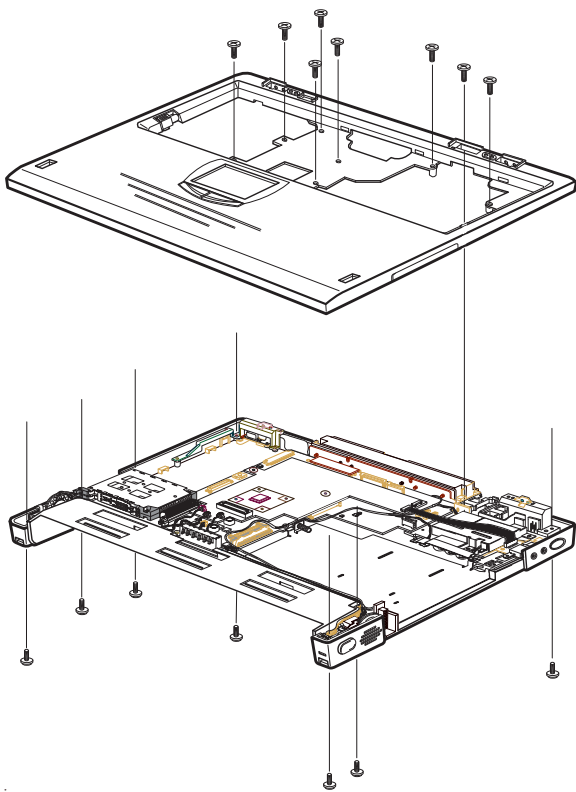

Figure 5-11. Removing Keyboard Deck Screws
9. Turn the system unit over so the bottom is up. Remove the two rubber feet and seven screws (Figure 5-11).
11. Remove the eight screws that hold the keyboard deck and LCD and Audio cables in place (Figure 5-11). Note: the LCD and Audio cables are secured to the top of the DC-to-DC Converter.